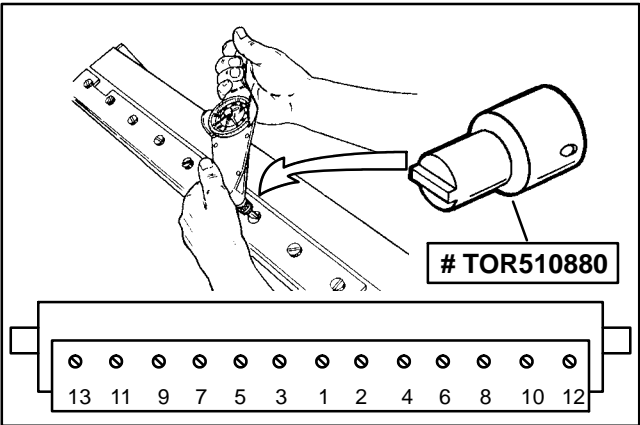

Figure 19
4. Use new screws to secure bedknife to bedbar. Install all screws but do not tighten fully. Then, using a torque wrench and bedknife screw tool (see Special Tools in this chapter), torque screws from **200 to 250 in-lb (23 to 28 N-m)**. Use a torquing pattern working from the center toward each end of the bedknife (Fig. 19).